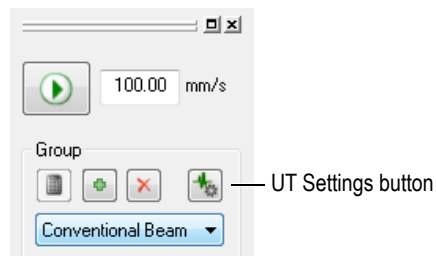

Figure 4-15 Selecting the UT group in the TomoView Manager
- ◆ Select the newly created group (see Figure 4-15 on page 241).